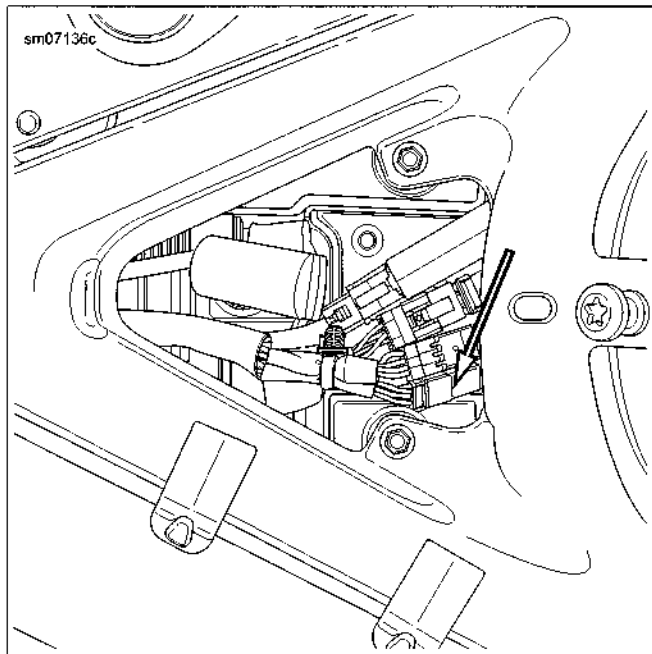

Figure 6-46. Tail Lamp Sub-Harness Connector [40]
3. See Figure 6-46. Separate tail lamp sub-harness connector [40] housings.